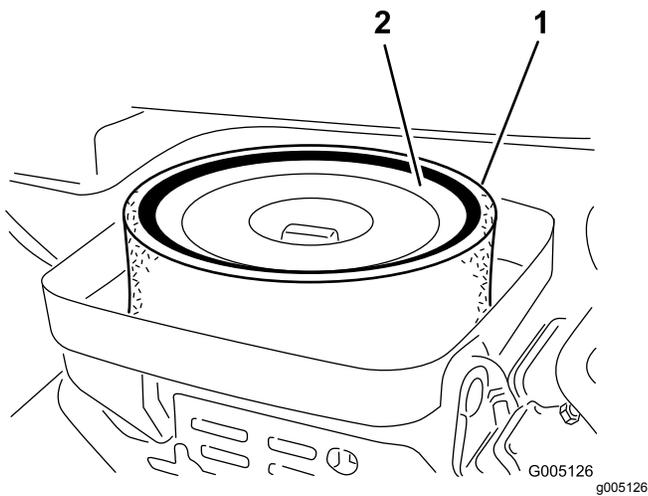

Figure 25
3. Remove the wing nut securing the elements to the air-cleaner body (Figure 25).
4. If the foam element is dirty, remove it from the paper element (Figure 25). Clean it thoroughly, as follows: